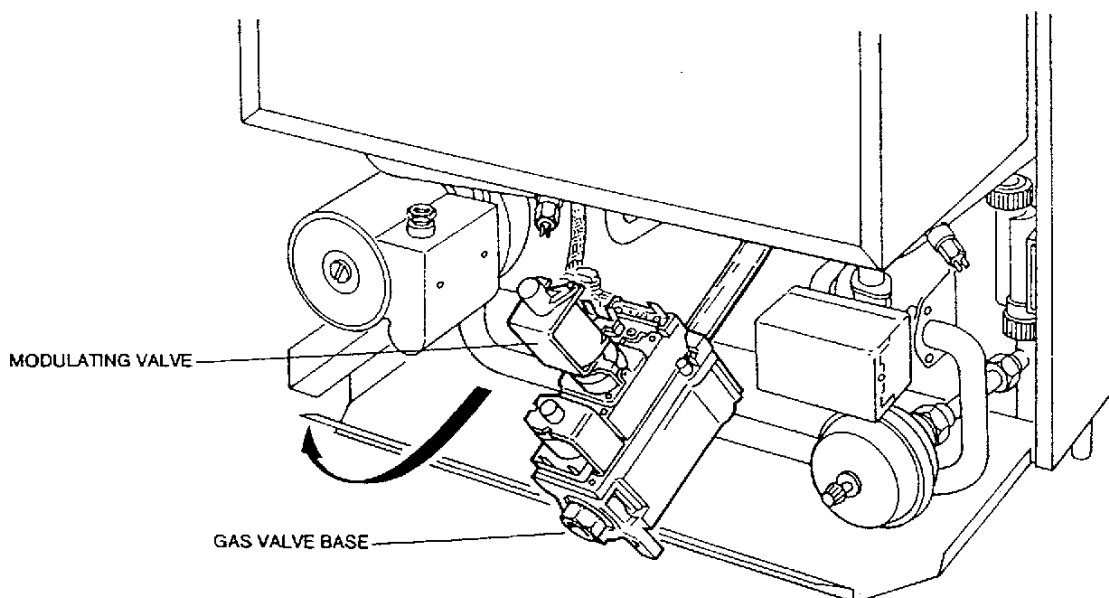

Fig. 24 GAS VALVE REMOVAL
7. GAS CONTROL VALVE (See Fig. 24)
- Lift the gas valve assembly clear of the gas service cock. Pull the gas control forwards so that the assembly passes between the horizontal flow pipe, 3-way valve and C.H. flow switch (See Fig. 24).